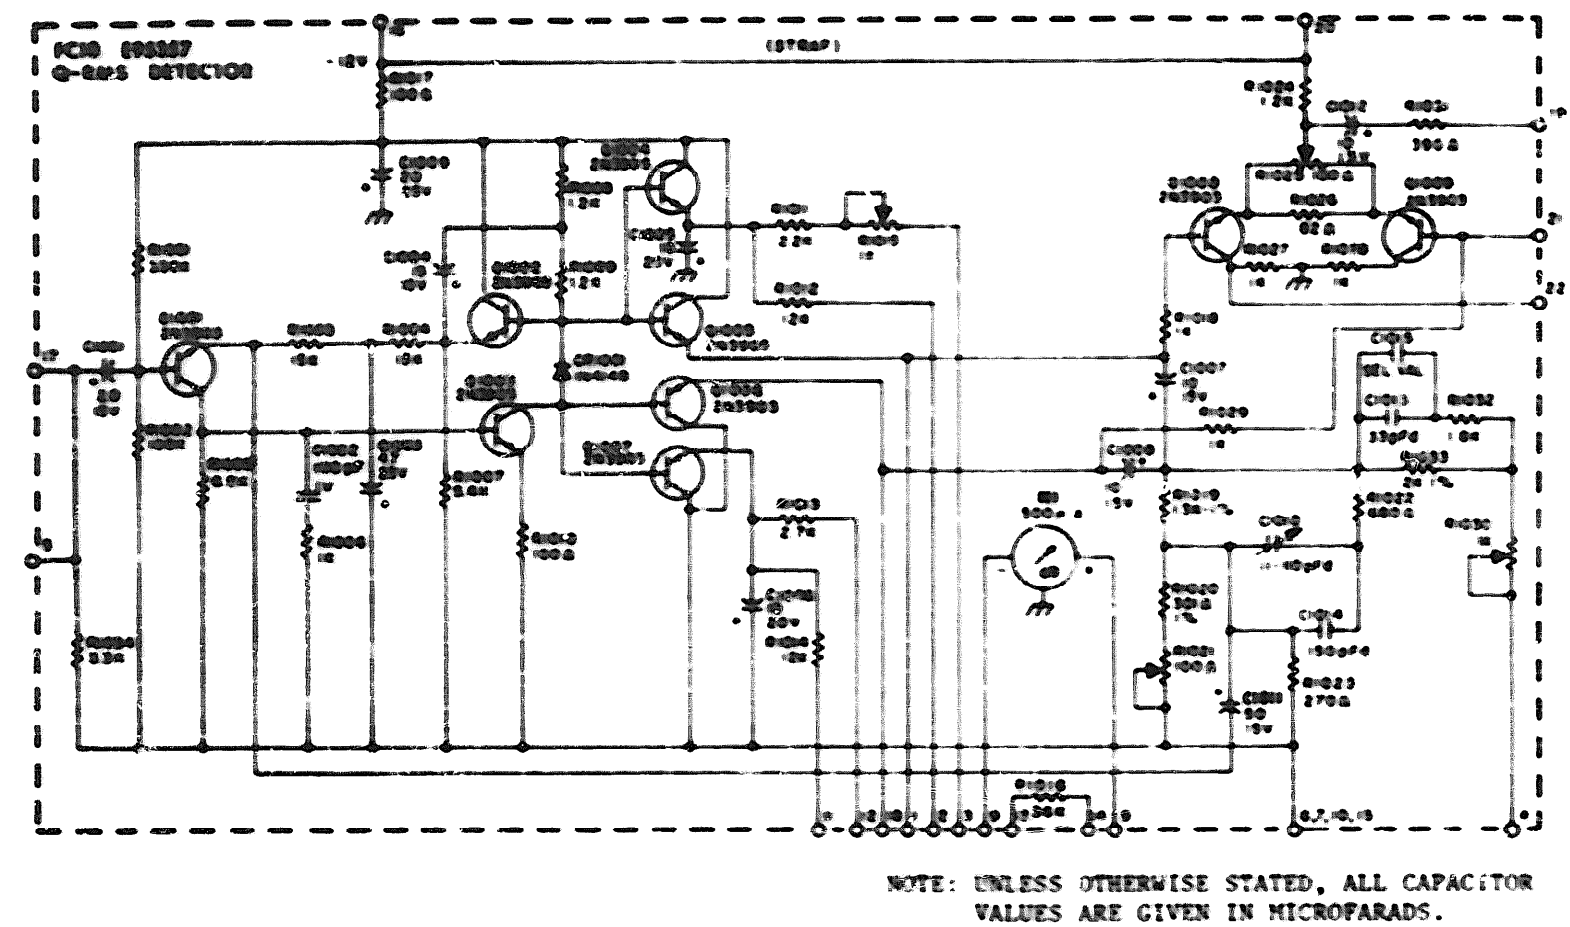

Figure 3-1. Detector Circuits.
- 3-4. The intermediate amplifier provides a gain which can range between 20 and 30 dB, depending on the setting of the REC LEVEL control. The input impedance of this amplifier is approximately 30,000 ohms and the output impedance approximately 400 ohms. When the NETWORK function is used, its weighted 20 dB amplifier is inserted between the input amplifier and the intermediate amplifier; the same applies to external filters. The meter amplifier can be switched to provide AVG, RMS or PK (peak) detection (FIG. 3-1). The average and peak circuits are both conventional. The peak detecting circuit is usable to 100 kHz. In the RMS position, the meter is supplied partially by the AVG and partially by the peak circuits. On a sine wave input, the three different types of detection will provide the same reading. The LEVEL VERNIER control is inserted between the intermediate amplifier and the detector amplifier.